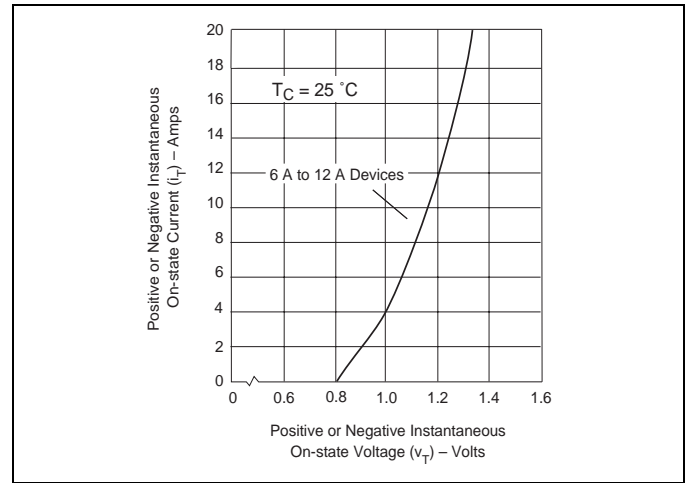
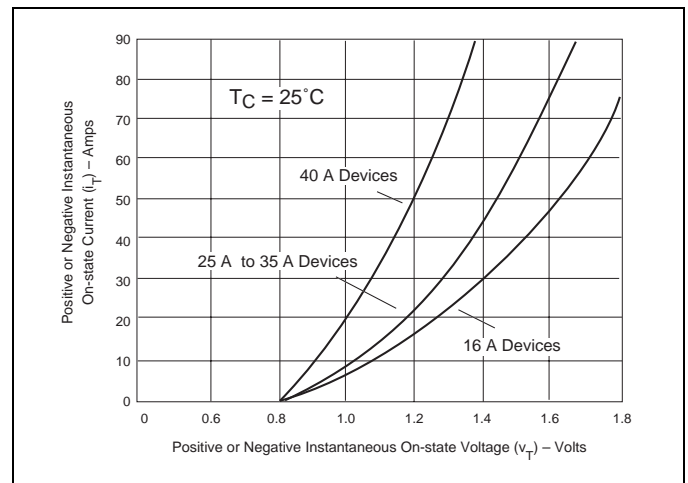

Figure E4.5 On-state Current versus On-state Voltage (Typical) (6 A to 12 A)
Figure E4.6 On-state Current versus On-state Voltage (Typical) (16 A to 40 A)
- See Figure E4.5 and Figure E4.6 for IT and VT.